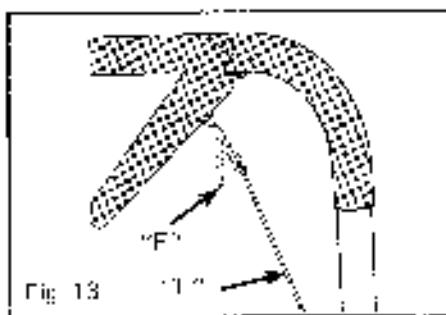

Fig. 13
Adjust cable (E), Figure 13 up or down by moving chain (F) one-half link (one loop) at a time. If impeller doesn't rotate when engaged, unhook chain, pull up on cable and rehook chain in next lower loop. If impeller rotates without engaging, unhook chain and rehook chain in